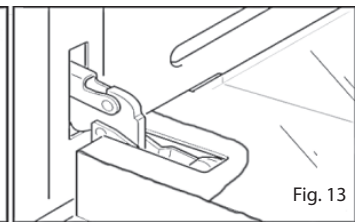

Fig. 13
- Open the door to the end (Figure 13)